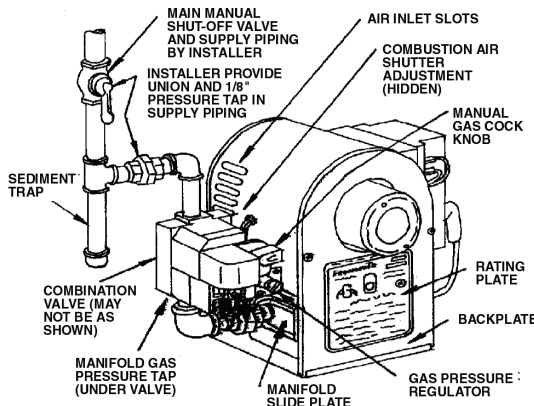

Figure 6 -
⚠ CAUTION: The available gas pressure should be within the limits shown in the SPECIFICATIONS section. Excessive pressure will damage Combination Valve and Regulator. If the supply pressure exceeds the 14.0" W.C. maximum, a suitable intermediate main regulator must be installed ahead of the Main Manual Shut-Off Valve shown in Figure 6.
- Provide a sediment trap, union and 1/8" pressure tap in piping close to burner as shown in Figure 6.
- If the burner piping must be rearranged because of space limitations, be sure to carry out the general arrangement shown in Figure 6. Install the Combination Valve in any position except up-side down.
⚠ WARNING: When reinstalling the curved manifold pipe, make sure the manifold slide plate is positioned in its holder and that the main spud is inserted into the end of the nozzle, see Figures 6 and 7.
- ⚠ WARNING:** When reassembling burner, make sure that the manifold slide plate is positioned in its holder and that the main gas spud is inserted into the end of nozzle, see Figures 6 and 7.